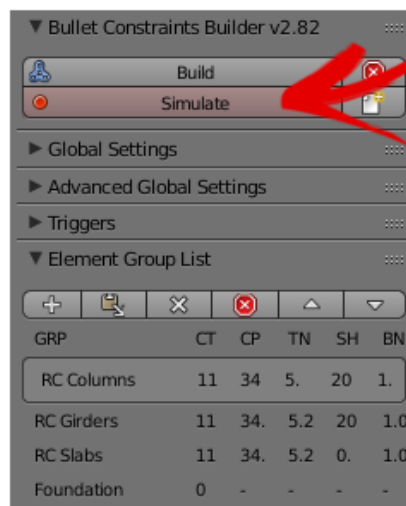

Figure 14
- When you are curious to see how your structural changes affect the stability of the structure, start the simulation by pressing “Simulate” in the BCB user interface, Figure 14.